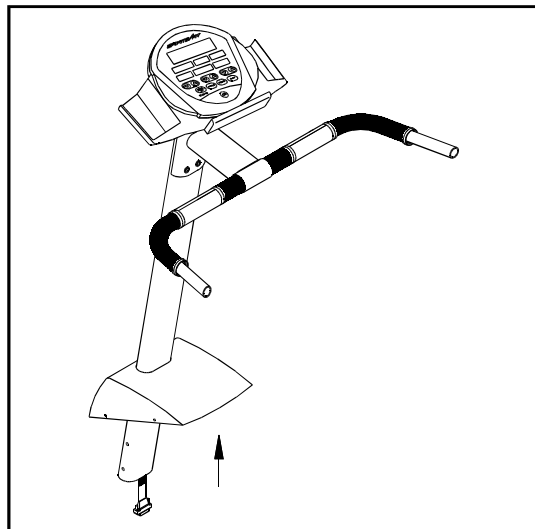

Fig.1
3. Then slip post shroud onto the upright post . (see Fig.1)